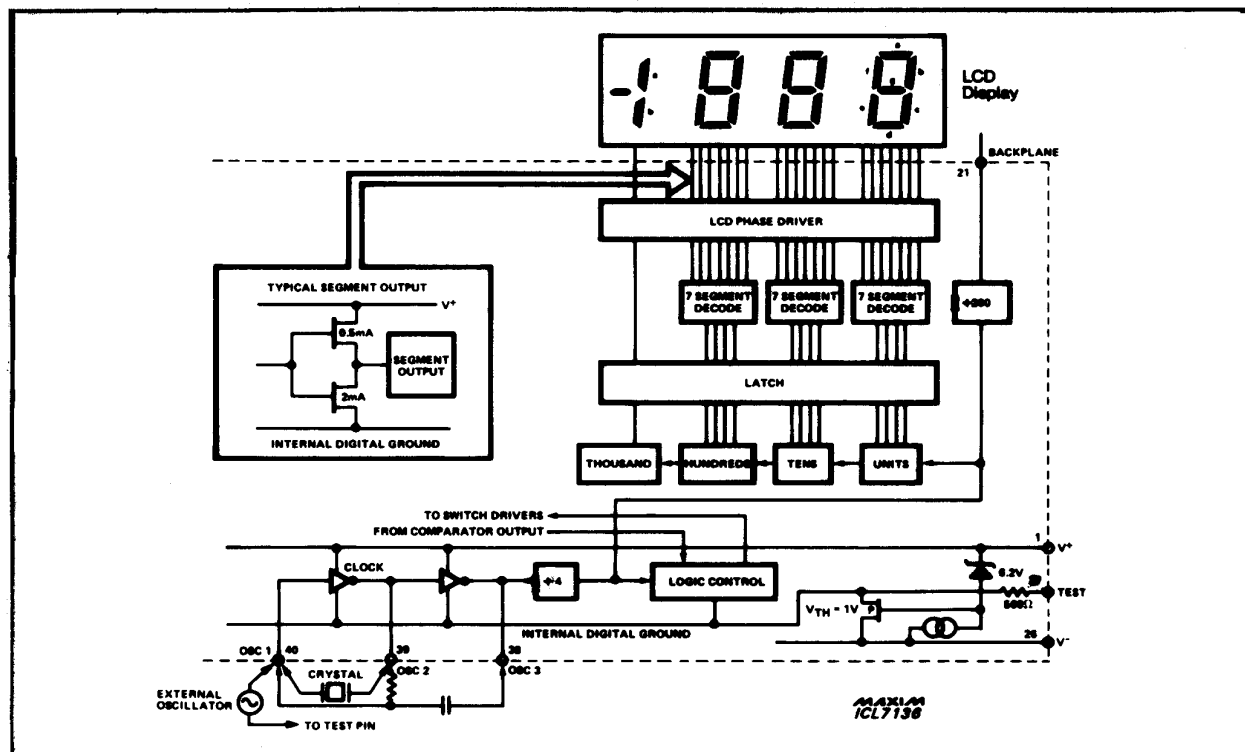

Figure 7. ICL7136 Digital Section
The digital section for the ICL7136 is illustrated in Figure 7. In Figure 7, an internal digital ground is generated from a 6V zener diode and a large P channel source follower. This supply is made stiff in effort to absorb the large capacitive currents when the back plane (BP) voltage is switched. The BP frequency is calculated by dividing the clock frequency by 800. For example, with a clock frequency of 48kHz (3 readings per second), the backplane will be a 60Hz square wave with a nominal amplitude of 5V. The segments are driven at the same frequency and amplitude. Note that these are out-of-phase when the BP is On and in-phase when OFF. Negligible dc voltage exists across the segments in either case.
The clocking circuitry for the ICL7136 is illustrated in Figure 7. Three approaches can be used: